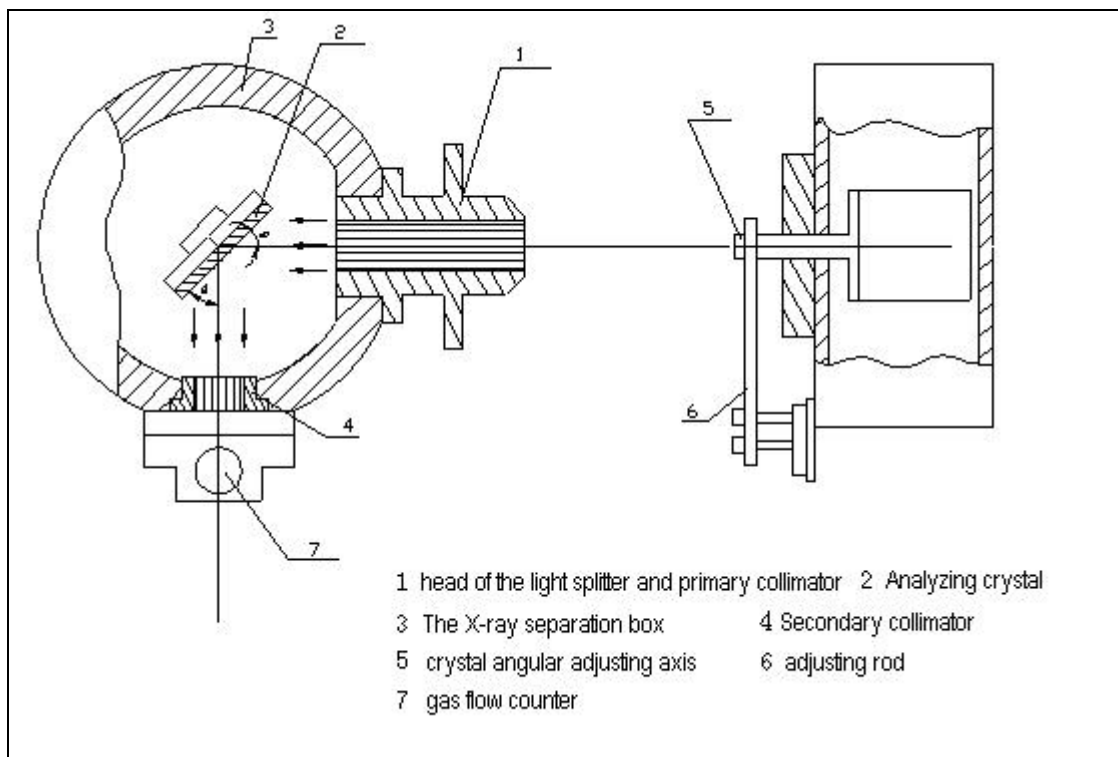

figure 4-1A: flat crystal light splitter structural diagram
① The composition of the flat crystal light splitter: figure 4-1A is its structural diagram. It is composed of the following parts: head of the light splitter and primary collimator: used for connecting the light splitter to the side wall of the X-ray separation room, whose inner barrel is used for installing the primary collimator. Primary collimator is a group of paralleled molybdenum plates. One of the functions is to